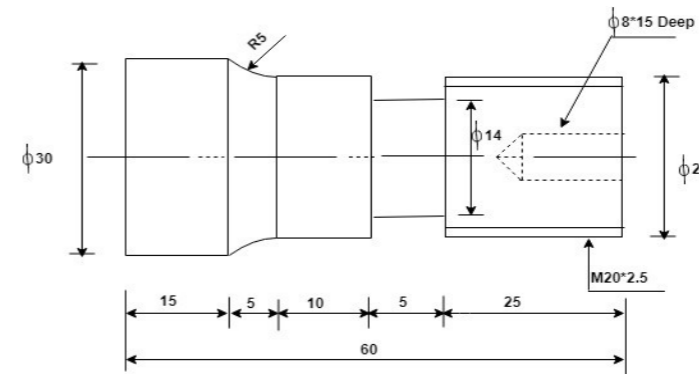

Figure 10 (All dimensions are in millimeter)
16. A component shown in the figure 10 has to be manufactured in a small quantity. What machine tool you will select, list down the sequence of operations, the corresponding tools and also the machining time. (10) 2 3